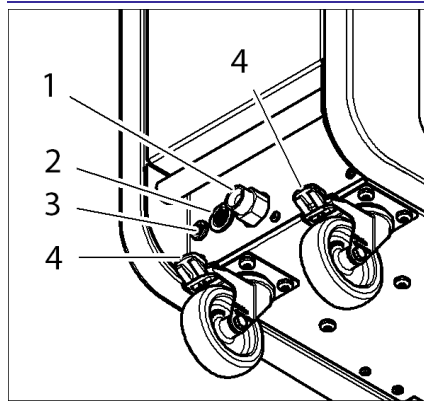

Fig. 3: Dry ice blasting system – front
The dry ice blasting system moves on four castors. The two large castors are mounted on ball bearings, while the two small castors at the front rotate and can be locked with the parking brake (item 4 in Fig. 3).
- Lock the parking brake on the front castors (item 4 in Fig. 3)
- Insert the blasting hose into the coupling (item 1 in Fig. 3) on the front of the dry ice blasting system.
- Connect the control cable to the multipole socket (item 2 in Fig. 3).